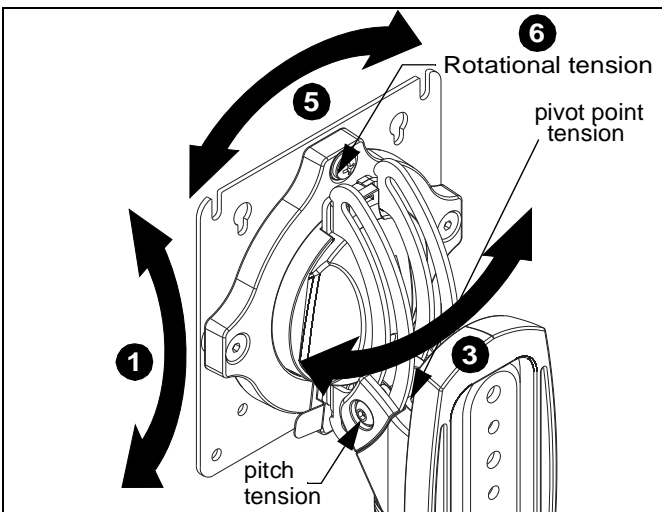

Figure 7
1. Adjust pitch to desired tilt position. (See Figure 7)
2. Adjust pitch tension screw to change the adjustment tension. (See Figure 7)
3. Adjust pivot position as desired. (See Figure 7)
4. Use 3/16" hex key (Q) to adjust pivot point tension screws to change pivot adjustment tension. (See Figure 7)
5. The monitor may be adjusted 90 degrees in either direction in order to provide a portrait view of the monitor. (See Figure 7)
6. Use 3/16" hex key (P) to adjust rotational adjustment screw to adjust rotational tension. (See Figure 7)